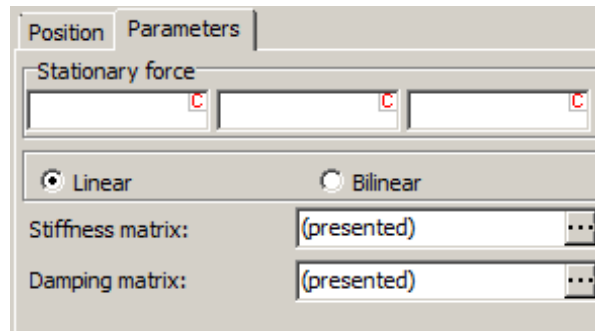
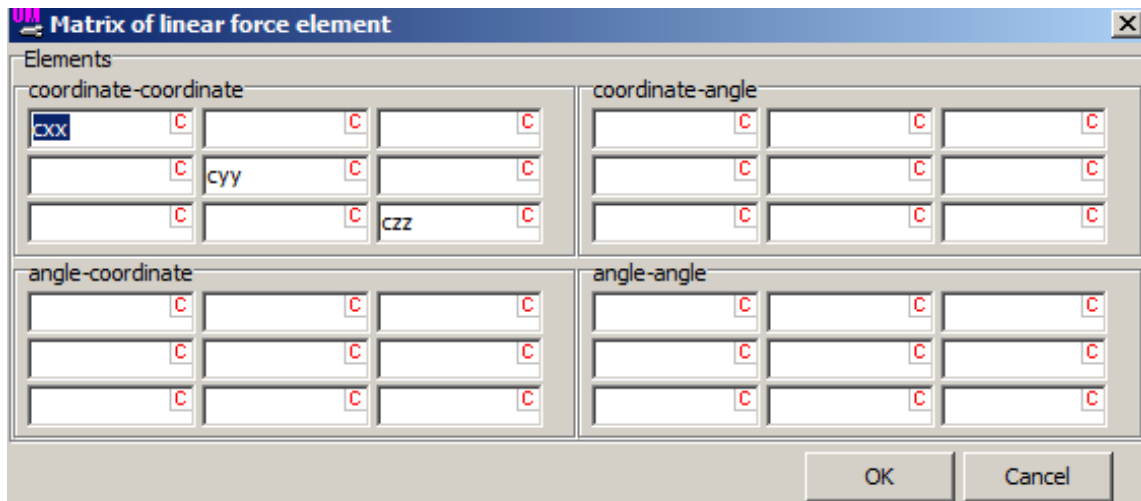

Figure 2.44.
Figure 2.45.
- Let us introduce a stiffness matrix of the element. Select **Parameters** tab. Click the  button in the **Stiffness matrix** box (Figure 2.44), set diagonal elements of the matrix corresponding to the translational degrees of freedom (Figure 2.45), and click OK. Set the following identifier values:  $c_{xx}=1e+6$ ,  $c_{yy}=1e+6$ ,  $c_{zz}=1e+6$  (N/m).
Let us set dissipative matrix of the element. Select **Parameters** tab (Figure 2.44). Click the  button in the **Dissipative matrix** box, set the diagonal elements of the matrix corresponding